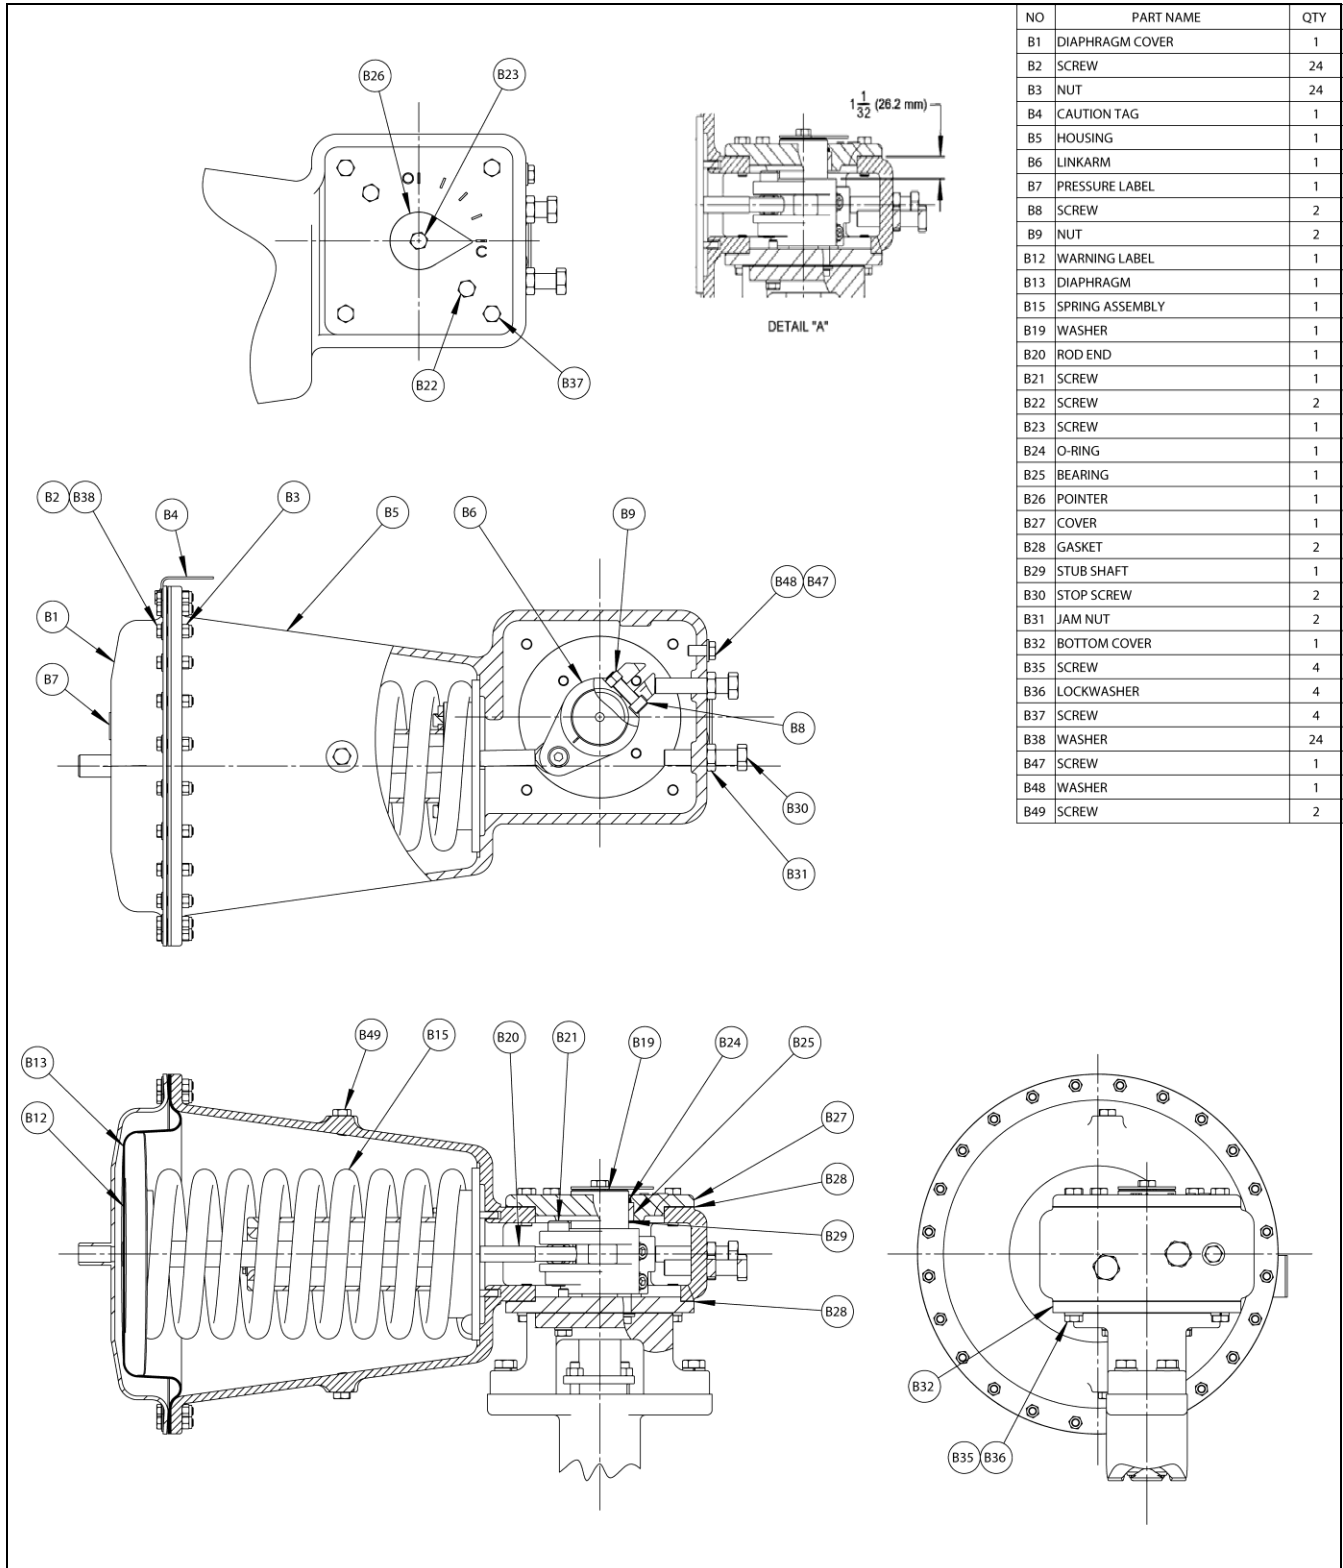
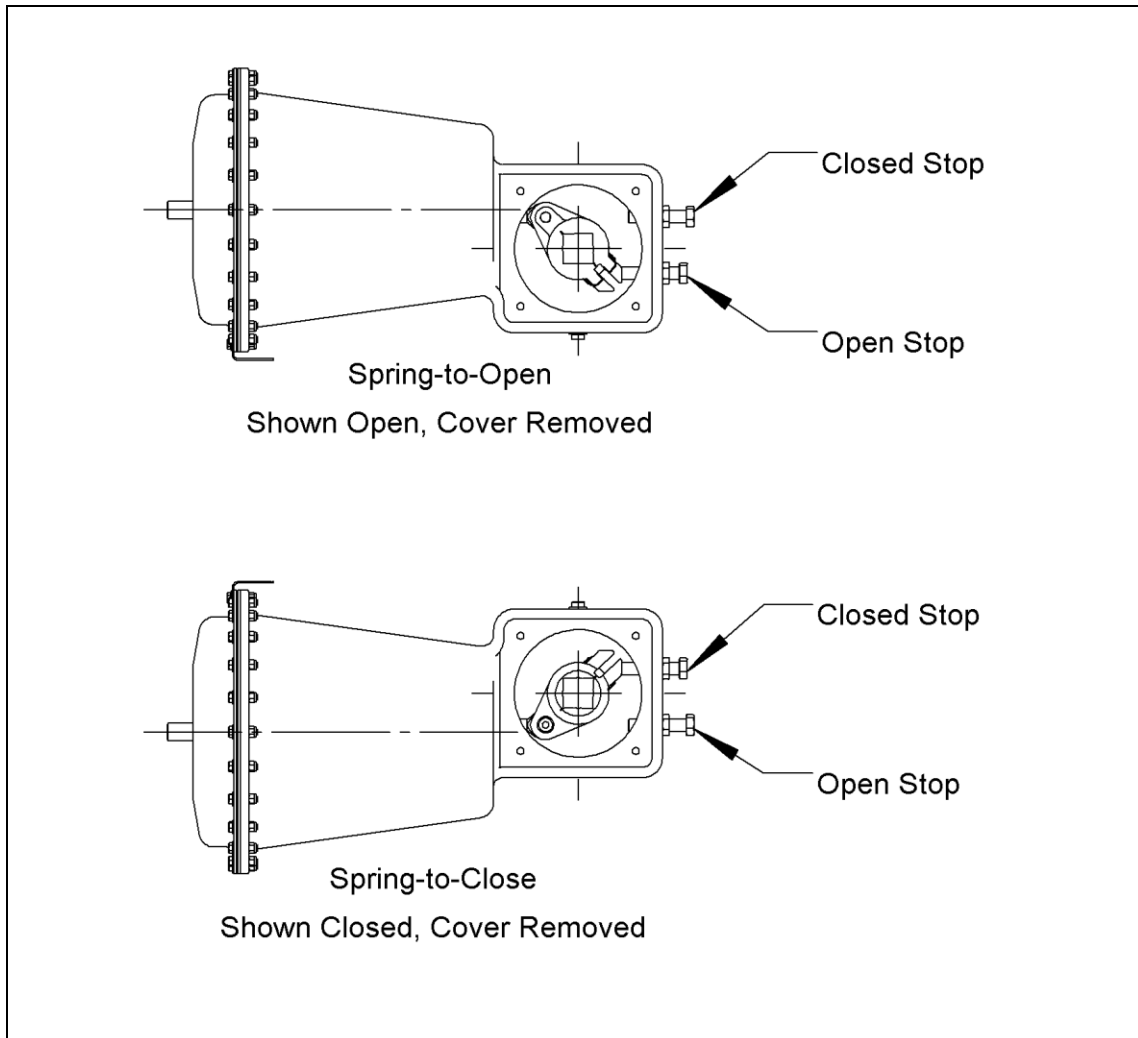

Figure 1 - Parts Identification
Figure 2 - Open and Closed Position Stops
For high vibration installations, additional mounting support is recommended on the diaphragm end of the actuator to prevent damage to the actuator and/or the piping system. Mount the support from the pipeline to at least two of the diaphragm cover screws (B2) shown in Figure 1. Tighten the screws to 18 ± 2 foot pounds (24 ± 3 Nm).
The actuator is powered pneumatically and rotates 90 degrees between the open and closed positions. The action of the actuator is either spring-to-close or spring-to-open, as determined by which side of the actuator is mounted to the valve, as shown in Figure 2. The action selected is shown on the actuator label. With spring-to-close, increasing signal pressure to the actuator opens the valve and decreasing pressure closes the valve; with spring-to-open, increasing pressure closes the valve and decreasing pressure opens the valve.
The open and closed position stops are the two hex head screws (B30) shown in Figure 1 and on Figure 2. The stops are adjustable and prevent the actuator from rotating beyond the open and closed positions of the valve. If the actuator is factory-mounted on the valve, the stops are preset and do not require further adjustment.
If the actuator is not factory-mounted on the valve, or if the actuator is removed and/or disassembled, the stops will require adjustment as described below. Refer to the valve Instructions for closed-position information and adjust the stops with the actuator mounted on the valve. Refer to Figure 1 for component identification.
2. Loosen the jam nut (B31) on the appropriate stop screw (B30). Refer to Figure 1.
2. Loosen the jam nut (B31) on the appropriate stop screw (B30). Refer to Figure 1 and Figure 2.
Refer to Figure 1 for component identification.
6. Position the link arm (B6) 1-1/32" (26.2 mm) below the top of the actuator as shown in Detail "A" of Figure 1.
Refer to Figure 1 for parts identification.
8. Loosen the two link arm screws (B8) and remove the stub shaft (B29) from the link arm (B6); remove the link arm from the valve shaft, and replace the link arm on the valve shaft in the appropriate position as shown in Figure 2.